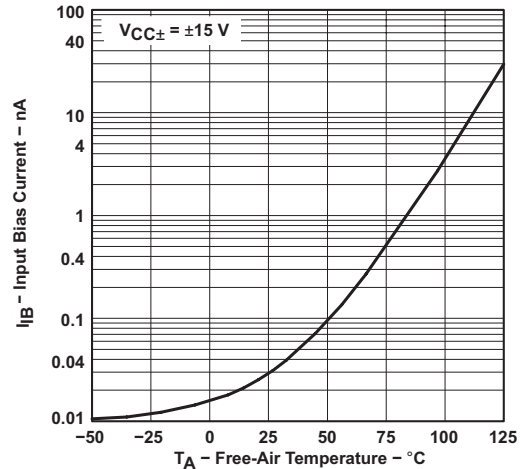

Figure 12. Input Bias Current vs Free-Air Temperature
- (1) All characteristics are measured under open-loop conditions with zero common-mode input voltage, unless otherwise specified. Full range for  $T_A$  is  $0^\circ\text{C}$  to  $70^\circ\text{C}$  for TL06xC, TL06xAC, and TL06xBC and  $-40^\circ\text{C}$  to  $85^\circ\text{C}$  for TL06xl.
- (2) Input bias currents of an FET-input operational amplifier are normal junction reverse currents, which are temperature sensitive, as shown in Figure 12. Pulse techniques are used to maintain the junction temperature as close to the ambient temperature as possible.
- (1) All characteristics are measured under open-loop conditions, with zero common-mode voltage, unless otherwise specified.
- (2) This parameter is not production tested.
- (3) Input bias currents of an FET-input operational amplifier are normal junction reverse currents, which are temperature sensitive, as shown in Figure 12. Pulse techniques are used to maintain the junction temperature as close to the ambient temperature as possible.
Input bias current versus Free-air temperature	<a href="#">Figure 12</a>